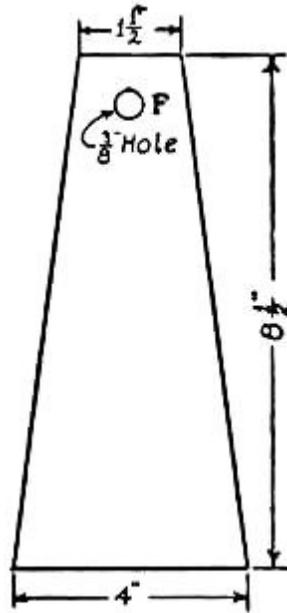
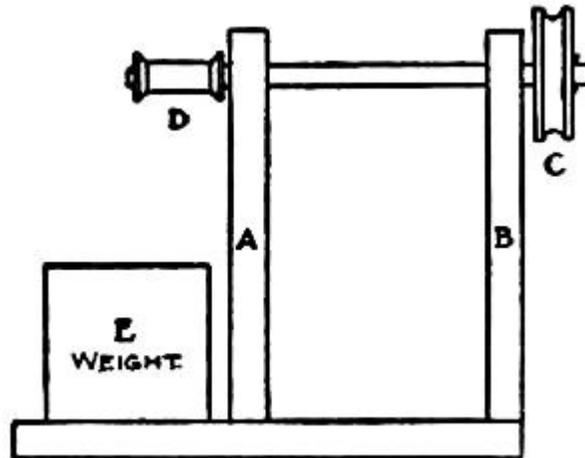

FIG. 354.
FIG. 356.—Support for Trolley-line.
**The Trolley-line**, or overhead cable, runs around the wheels of two supports, one at either end of the track. Prepare four pieces of wood the shape and size of that shown in Fig. 354 for the uprights of these supports, and make two wheels three inches in diameter. The wheels may be marked out with a piece of string and pencil as shown in Fig. 201, Chapter XV, if you haven't a compass. When the wheels have been cut out, place them in your bench-vise, one at a time, and with a rasp make a groove around the edge as shown at C, Fig. 356. Bore a three-eighths inch hole through each upright at F, Fig. 354, and another through the centre of each wheel. Now fasten two of the uprights six inches apart upon a block of wood, as shown at A and B, Fig. 356. Whittle a shaft to fit loosely in the holes of the uprights, and, after slipping it into them, fasten one of the wheels upon one end and a small spool upon the other (see C and D in Fig. 356). A weight of some sort should be fastened to the base, as shown at E. The uprights for the other support should be similarly mounted upon another block of wood. Fasten the remaining wheel to an axle run through the holes in the uprights, and, as it is unnecessary to have a spool upon the other end of the axle, cut it off short and drive a nail through it to prevent it from slipping through the holes. Having thus prepared the supports, place them as far apart as you wish to extend the railway, and run a cord around the two wheels and tie it. Then set